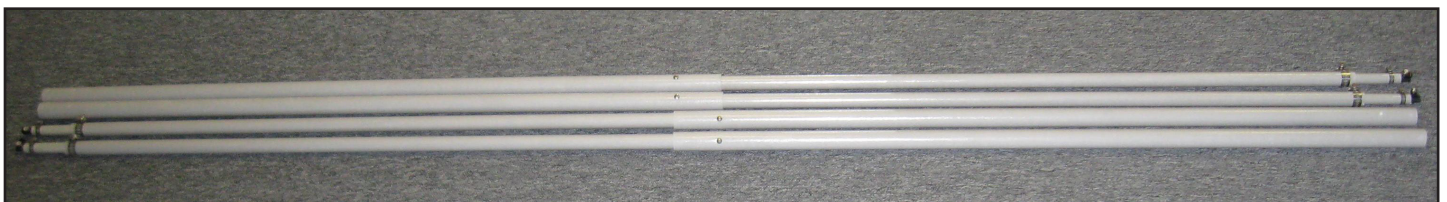
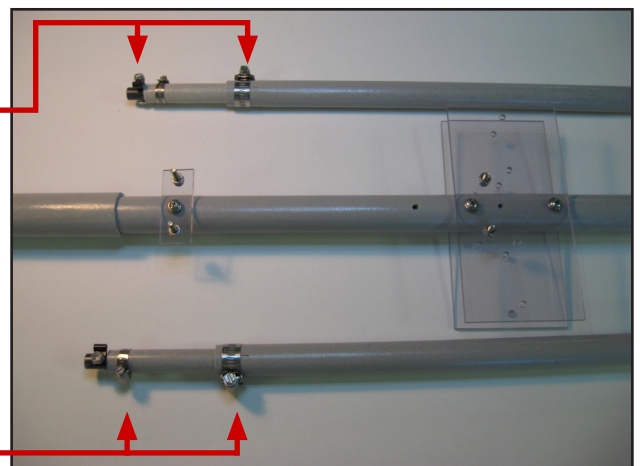

Fig. 30
Fig. 45
**The four (4) Element Sub-Assemblies are now complete as shown in Fig. 30.**
**Note: Two (2) of the Element Sub-Assemblies will now be attached to the Boom End Sub-assembly. Please refer to Fig. 30 and note that there are both left-hand and right-hand Element Sub-Assemblies.**
- Select one (1) right-hand Element Sub-Assembly and one (1) left-hand Element Sub-Assembly.
- Orient the selected Element Sub Assemblies next to the Boom End Sub-Assembly as shown in Fig. 45. **Note the orientation of the Hose Clamp adjustment screws. The Adjustment Screw of each Clamp is oriented away from the Boom on the outer side of each Element.**